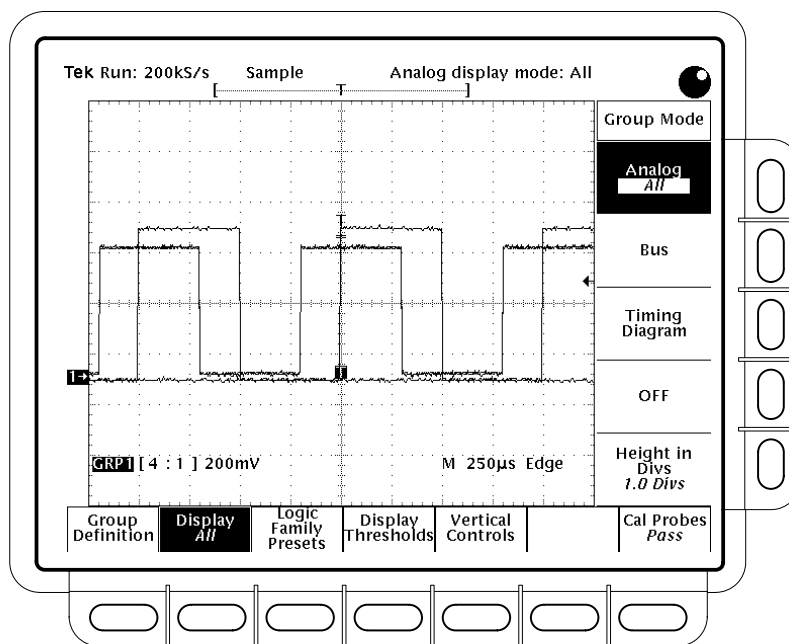

Figure 3-10: Group Display Mode Menu
2. Press **GROUP MENU** → **Display** (main) → **Analog, Bus, Timing Diagram**, or **OFF** (side). (See Figure 3-10.)